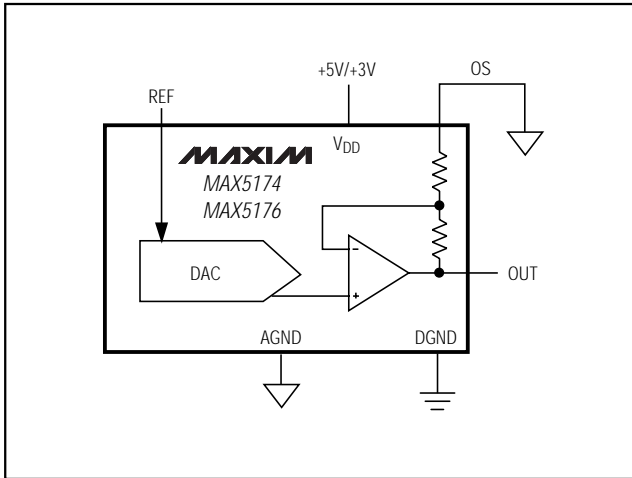

Figure 6. Unipolar Output Circuit (Rail-to-Rail)
Figure 6 shows the MAX5174/MAX5176 configured for unipolar, rail-to-rail operation with a gain of 1.638V/V.
**Table 2. Unipolar Code Table (Circuit of Figure 6)**